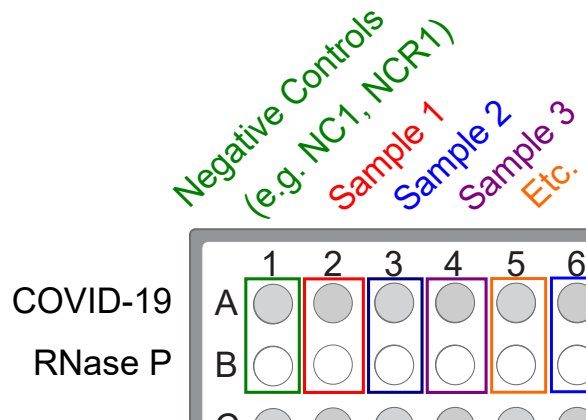

Figure 8 Paired sample and Negative Control wells for each assay
- b. Unseal the extraction plate, then add the Negative Control from the single well of the extraction plate to wells A1 and B1 of the reaction plate, as shown in Figure 8 on page 67.